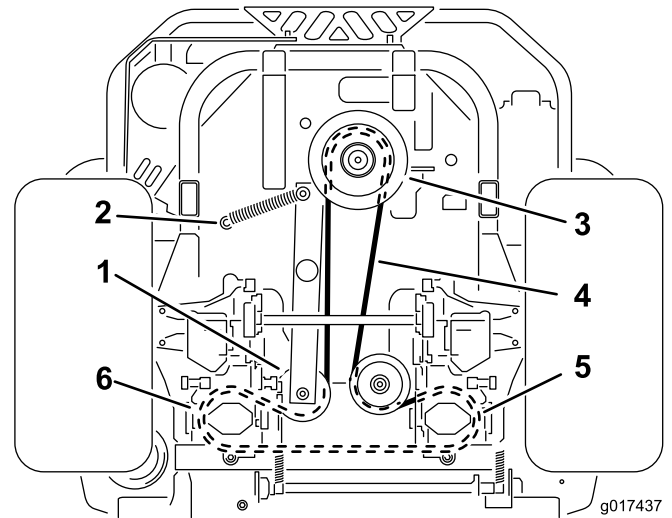

**Figure 58**
5. Remove the clutch stop (Figure 58).
9. Install the clutch stop (Figure 58).